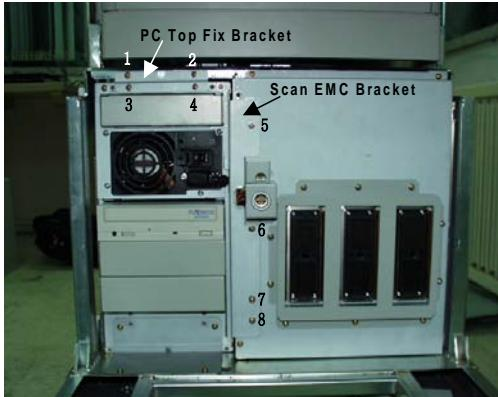

Figure 8-158 ATX SMPS Replacement
- 2.) Remove PC top fix bracket and scan EMC bracket. Refer Figure 8-158.